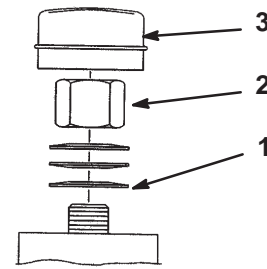

Figure 54
2. Remove dust cap from castor and tighten lock nut (Fig. 54).
3. Tighten until spring washers are flat and then back off a 1/4 turn to properly set the pre-load on the bearings (Fig. 54).
Important Make sure spring washers are installed correctly as shown in figure 54.